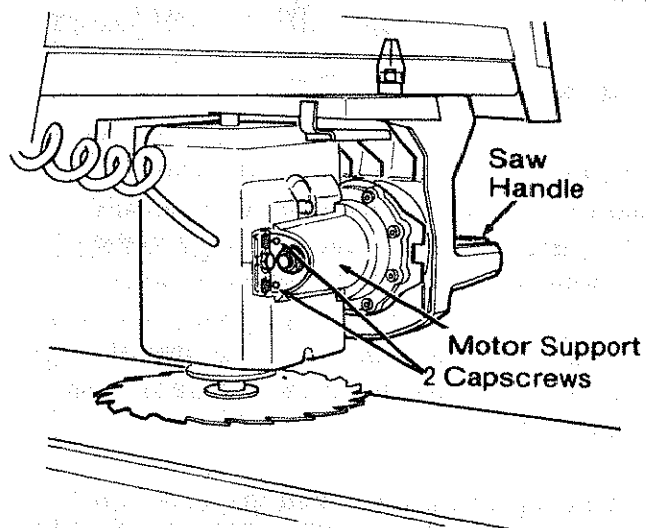

Fig. 71
10. Loosen the two screws on the back of the *motor support* using a 1/8 inch hex-L wrench and pliers if necessary. (Figure 71)